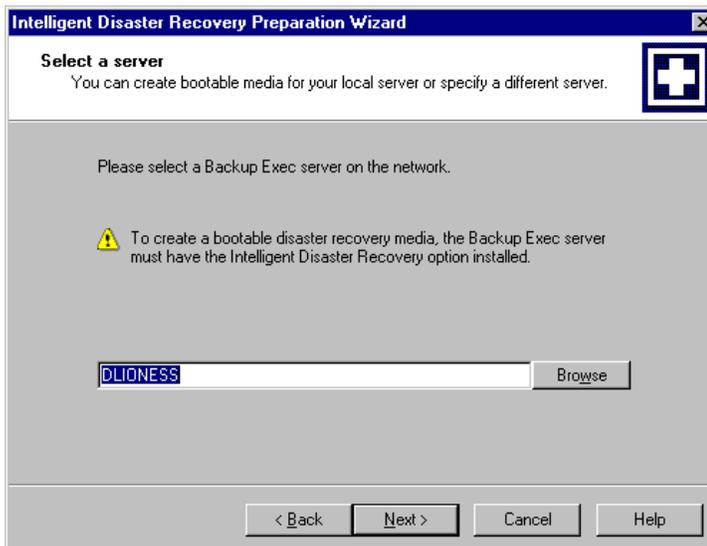

Figure 2: Server selection dialog
2. The local machine name will appear as shown in Figure 2. Otherwise, click Browse to select another server. Click Next to continue.